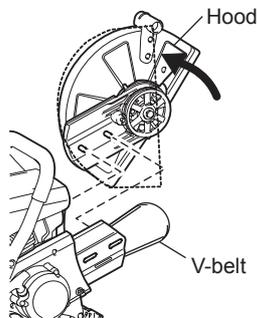

Fig. 2
- Rotate the hood to the broken line position. Remove V-belt and then remove cutting attachment from the Power Cutter. Reposition the grip. (Fig. 2)